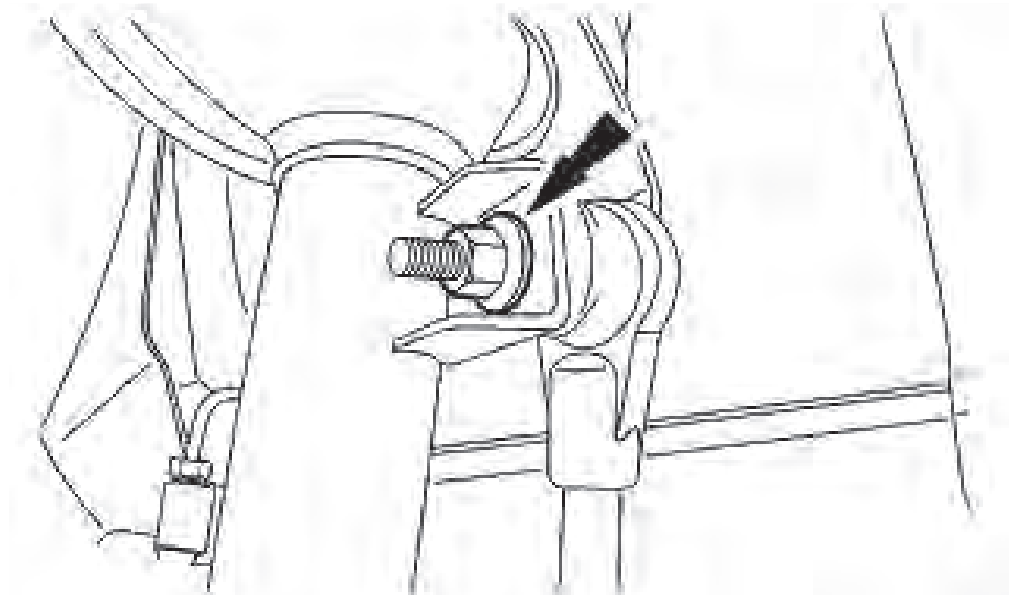

fig. C.2
3. Unthread the stabilizer link nut from the strut and free the linkage from the strut (Fig. C.2).